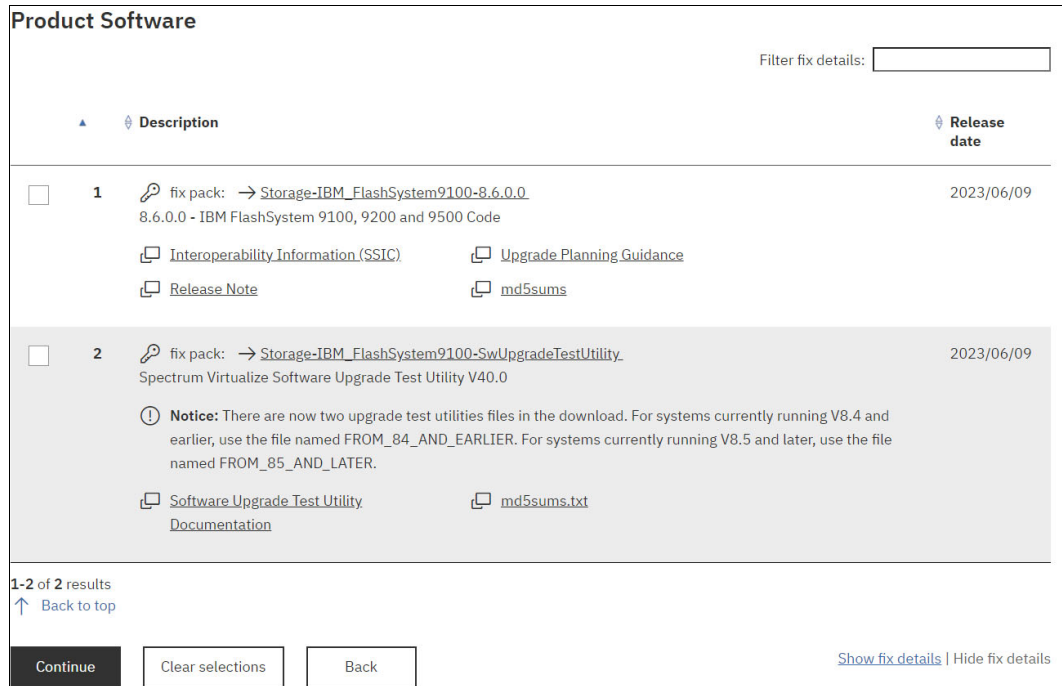

Figure 10-4 Fix Central download
10. Select **Download Now** and save the three files onto your management computer. Figure 10-4 on page 648 shows the window for downloading the package.